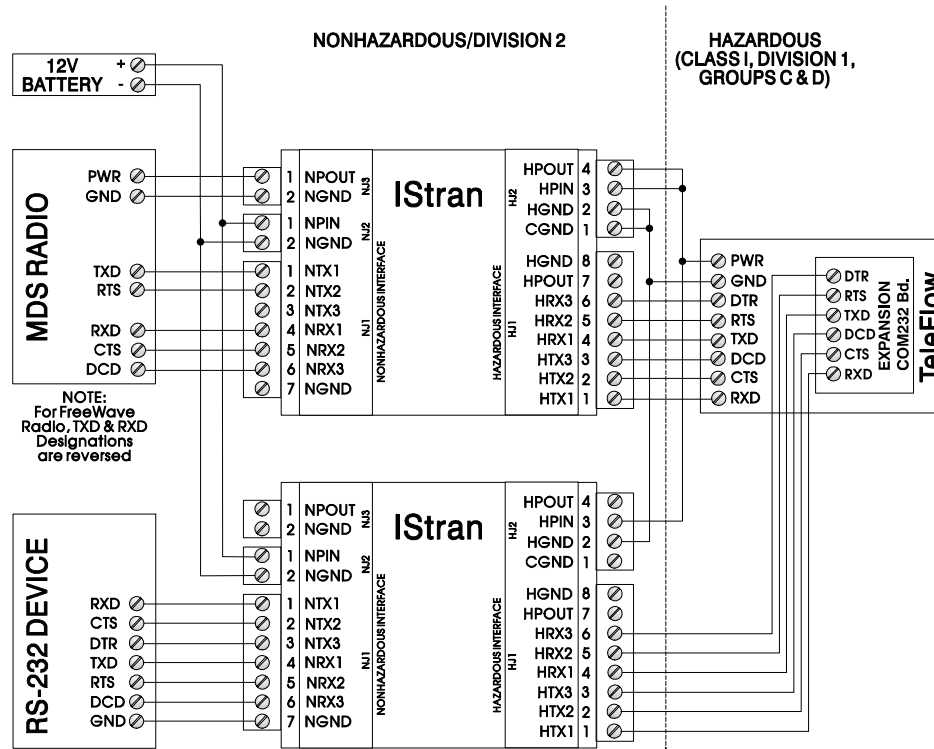

**Figure B1 - Intrinsically Safe System with Radio and EXPCOM232 Board
5. Figures B1 through B4 show variations of approved connections to the Expansion Communications Port RS-232 Board via a BBI IStran Communications Interface Assembly.